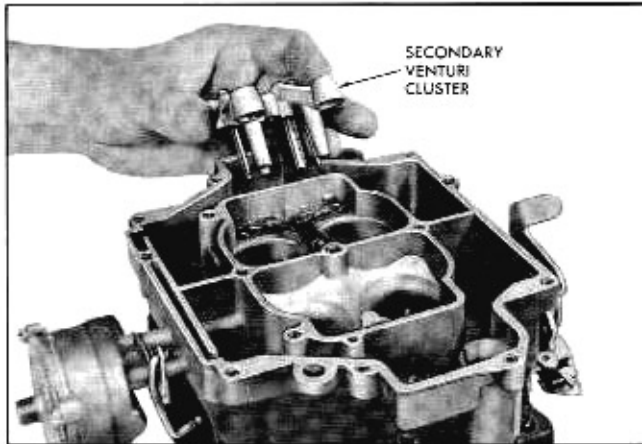

Fig. 6B-76 Removing Secondary Venturi Cluster
2. Remove both main metering jets from the primary side of bowl (Fig. 6B-75).